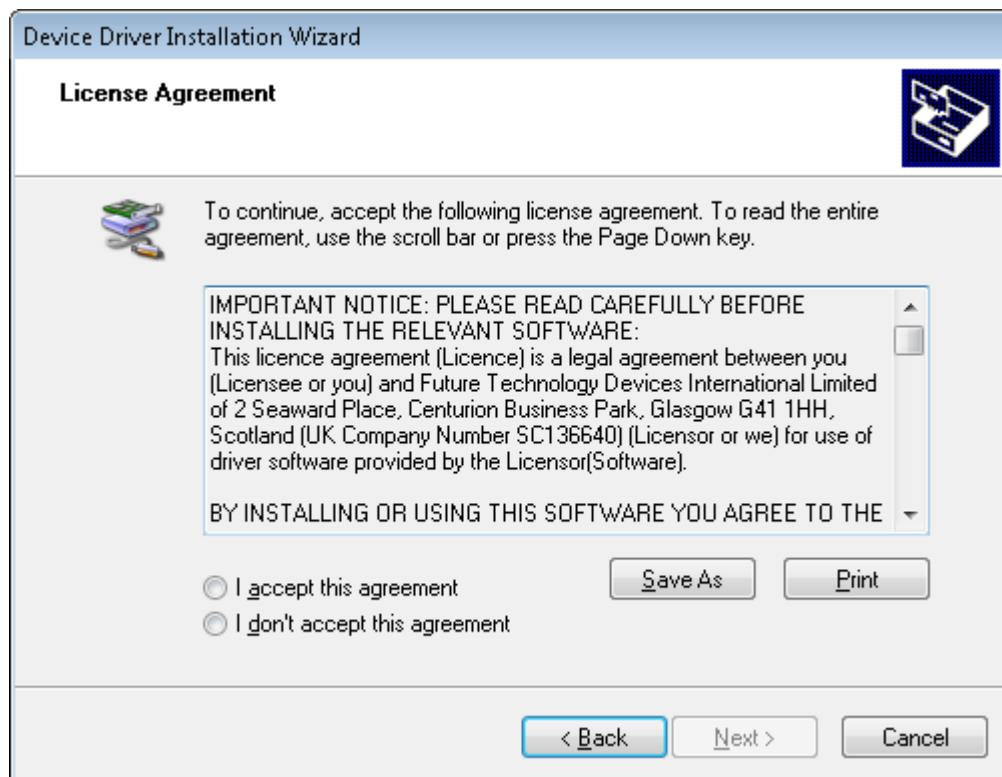

Figure 20. License Agreement for FTDI Driver
16. The License Agreement appears on screen as shown in Figure 20.